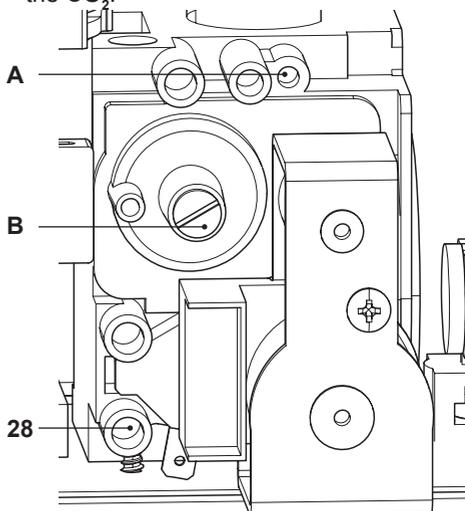

Figure 7.8
- With the boiler turned off (out of service), check the supply pressure using the tapping point 28 in Figure 7.8 and compare the value read with those shown in the Gas supply pressure table in section "Technical data M275V.2024 SM" on page 22, "Technical data M275V.2428 SM" page 25 and "Technical data M275V.2832 SM" page 28.
- Fully close the tapping point 28 in Figure 7.8.
- To calibrate the boiler CO_2 (gas pressure at the burner) unscrew the protective brass cap B completely and turn the underlying ϕ 4 mm hex head socket screw Figure 7.8. Turn it clockwise to increase the CO_2 .
- If the two values do not coincide, turn the RQ maximum adjustment screw (A in Figure 7.8) for the gas valve and calibrate the **CO₂** to the same value specified in the section “Technical data M275V.2024 SM” on page 22, “Technical data M275V.2428 SM” page 25 and “Technical data M275V.2832 SM” page 28. Turn it clockwise to decrease the **CO₂**.